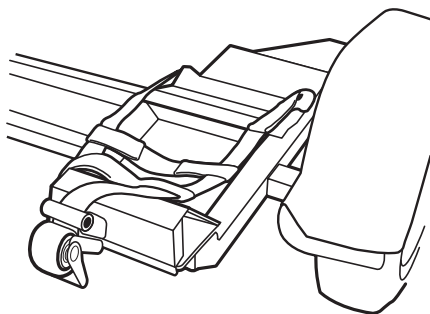

Figure 14
8. Route the tire strap behind tube and through slot in ratchet spool, then tighten the tire strap as far as the ratchet allows. (Figure 14)